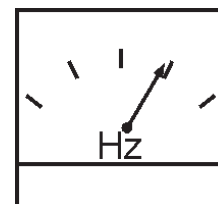

Figure 47. Frequency Meter (Hz)
- The generator's frequency meter (Figure 47) should be displaying the 60 cycle output frequency in **HERTZ**.